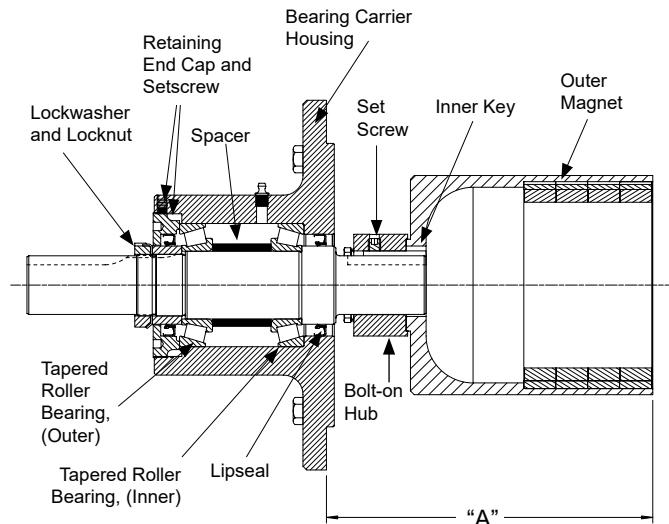

FIGURE 24
Depending on the condition of the bearings, either replace or repack existing bearings by cleaning and packing with multi-purpose NLGI # 2 grease. Replace the lip seals if necessary. See Figure 24, page 13 for lipseal orientation.
6. Install the inboard drive key, then slide the magnet onto the shaft. Locate the outer magnet per dimension "A" listed below. Tighten the two setscrews to lock into proper position. **See Figure 24, page 13.**